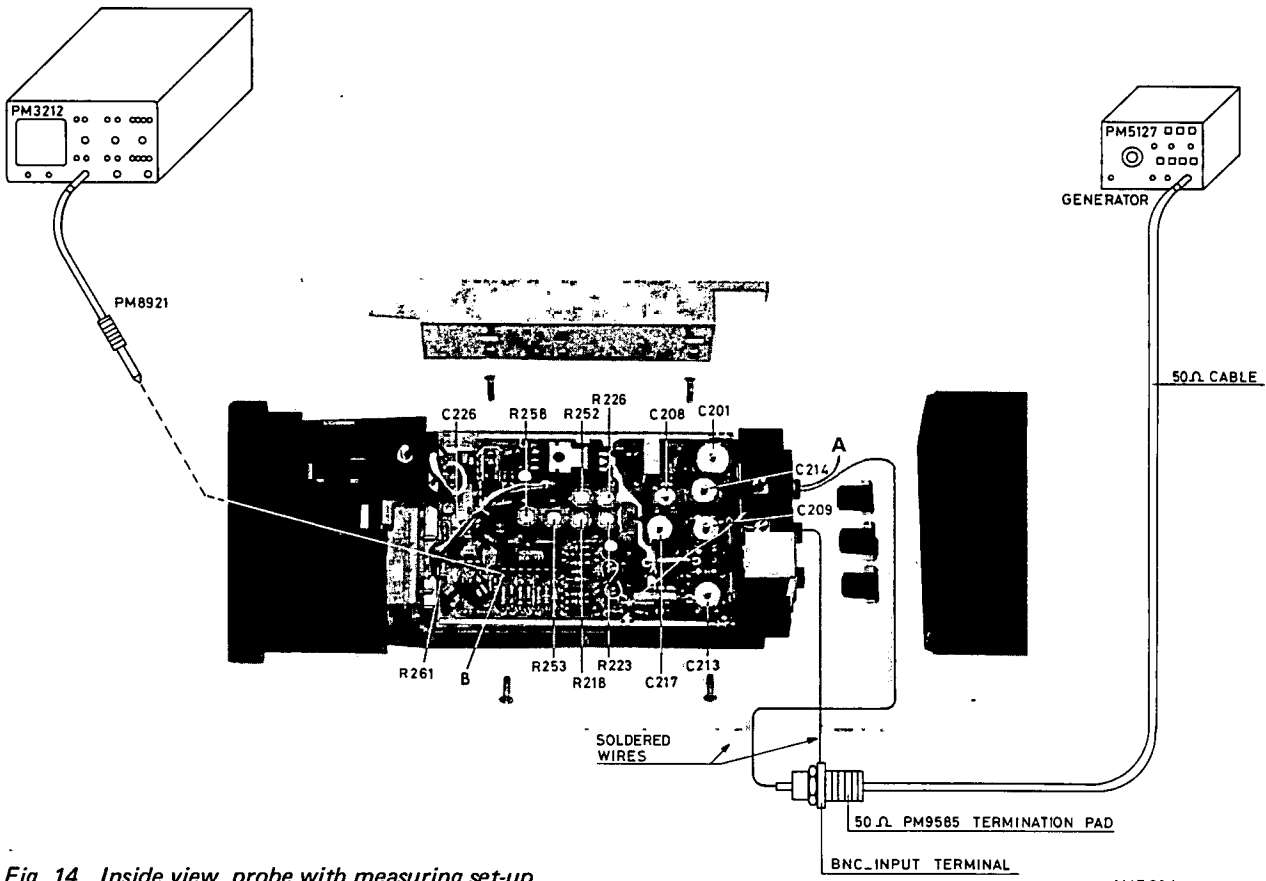

Fig. 14. Inside view, probe with measuring set-up
For the location of test points and adjusting elements, refer to figs. 14 and 15.
- Make measuring set-up as in fig. 14.